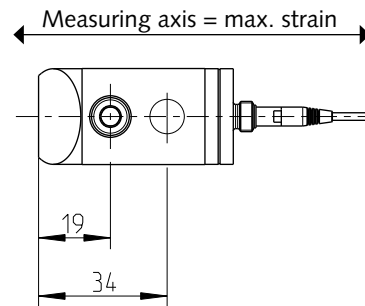

Fig. 4: Aligning sensor to the strain axis
- Align the sensor on the structure of the machine. Position the measuring axis so as to record the maximum strain (Figure 4).